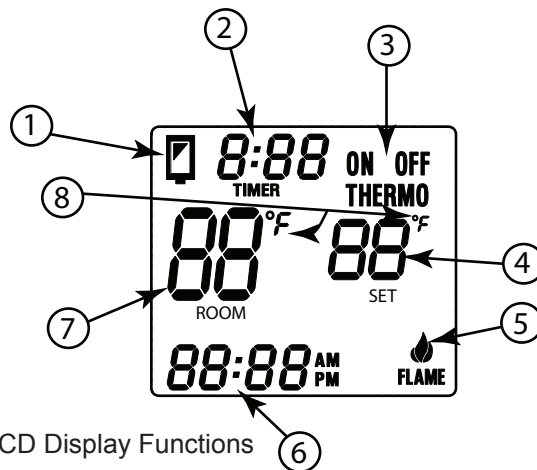

Fig. 2 LCD Display Functions
The transmitter operates on (2) AAA size 1.5DCV batteries. It is recommended that **ALKALINE** batteries always be used for longer battery life and maximum operational performance. **IMPORTANT:** New or fully charged batteries are essential for proper operation of the multi-function transmitter. Insert (2) AAA size 1.5DCV batteries into the battery compartment on the back of the transmitter, positioning the (+) and (-) ends of the batteries as indicated on the casing. When the batteries are inserted, the screen in Fig. 2 (with similar numbers) will display.
Note: If a LOW battery icon appears on the screen, check the position of the batteries. See Fig. 2.